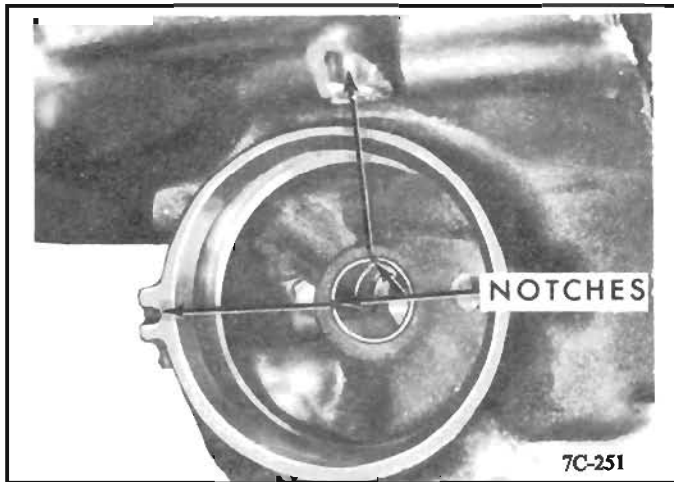

Figure 122 Bushing Properly Seated
d. Drive the bushing until it is flush with the top of the bore and seated properly in the case. *See Figure 122.*